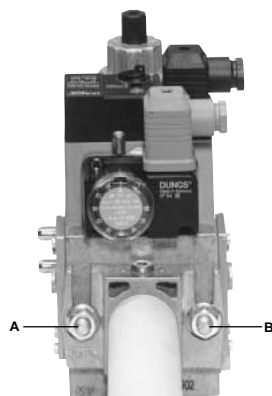
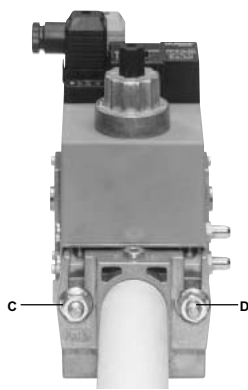
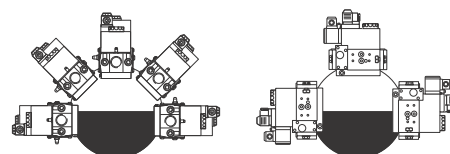

Fig. 6
Fig. 7
Fig. 9
3. tighten screws A, B, C and D (Fig. 6 - Fig. 7), according to the mounting positions (Fig. 9);